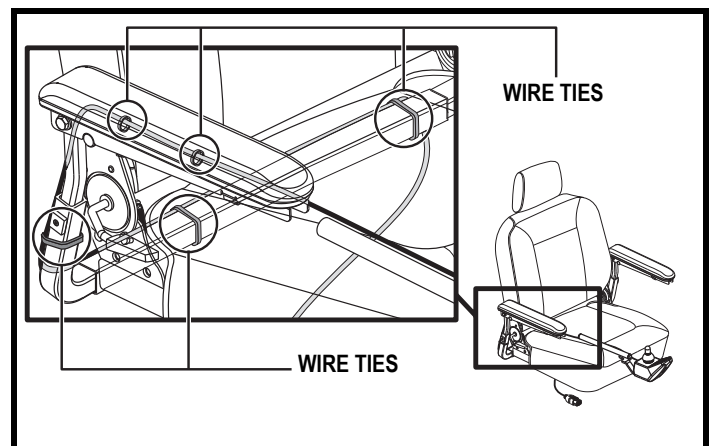

Figure 7. Controller Harness Routing
4. Install the controller and route the harness to the back of the seat. See figures 7.
6. Secure the controller harness to the armrest receiver with wire ties. See figure 7.